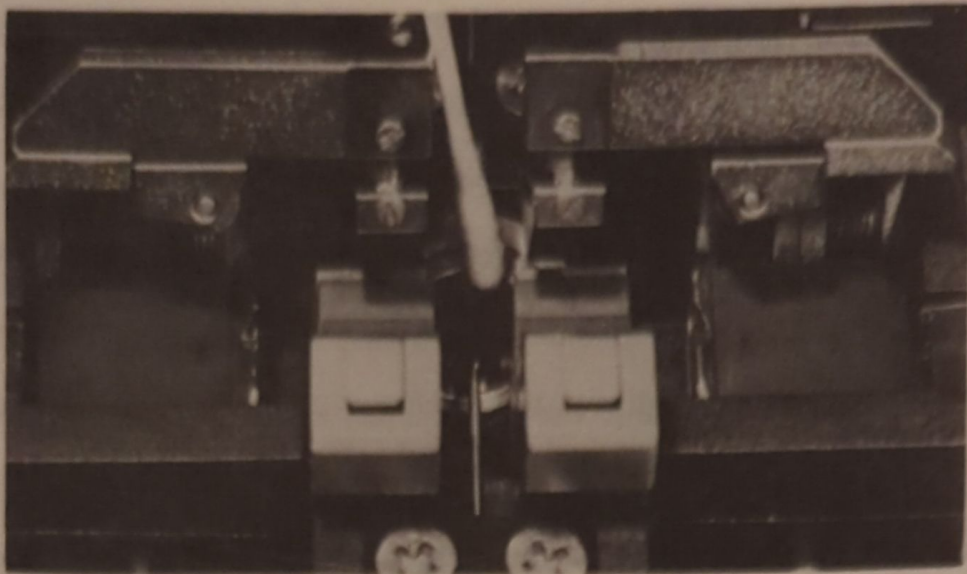

Fig. 32 Cleaning the Objective
After removing the electrode cover ①, wipe the objective with a cotton stick dipped in alcohol. (Refer to Fig. 32). Discharge several times without fail after cleaning (Refer to Section 5.1 Caution (3)).